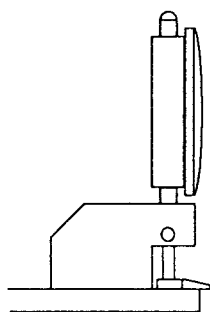

Fig. 28
- Place the Dial Height Gauge onto the Post Adjustment Plate as shown in Fig. 28 and adjust the pointer to zero.